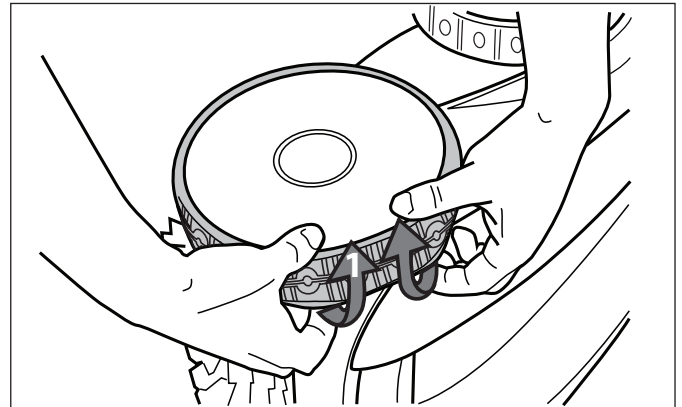

**Figure 21. Cut Tabs**
- Use scissors to cut the tabs at the guides, as shown in Figure 21.